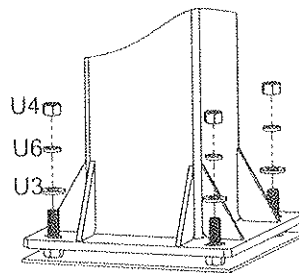
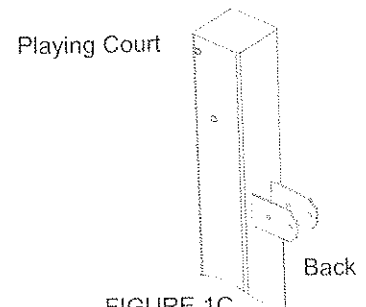

FIGURE 1B
FIGURE 1C
- Remove the Padding from Main Post (A). Place the Main Post (A) over the J-Bolts. Slide a 18mm Thick Washer (U3), a Lock washer 18mm (U6) and thread a 18mm Hex Nut (U4) to each J-bolt. Tighten the Nuts only a few turns onto the J-Bolts as shown in FIGURE 1B.
- If the Main Post (A) is not exactly vertical, adjust the 18mm J-Bolt Hex Nuts (U4) located under the Post base. Tighten all of the Hex Nuts (U4) Above Post base when Main Post (A) is vertical.
*NOTE: Face the Main Post (A) with Actuator Bracket facing away from playing court (as shown in FIGURE 1C).*